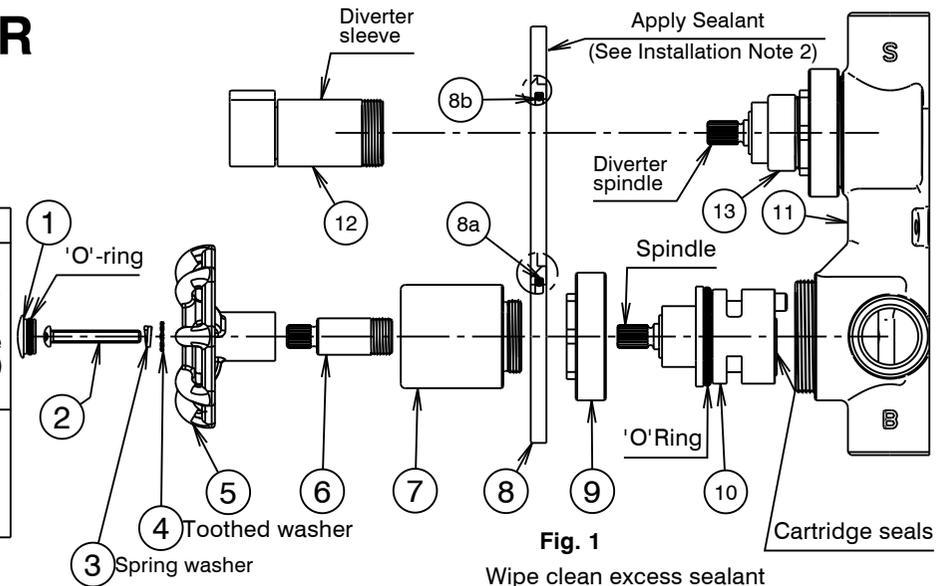

Fig. 1
### Installation (Fig. 1 - 3)
- \* The mixer body (11) must be installed square to wall/tile face to ensure that wall cover plate (8) aligns with tile joints.
- 2) Rotate the diverter spindle anti-clockwise to the stop position. Apply a suitable clear sealant to the back edge of the cover plate (8), leaving an unsealed section at the bottom for drainage. Carefully slide the cover plate (8) together with 'O'Ring (8a) over the mixer sleeve (7). Push the cover plate (8) firmly against the wall/tile face. Align the lever of the diverter knob assembly (12) to be vertically up (Fig.3) then pass the diverter sleeve through the hole in the cover plate (8) and 'O'Ring (8b). Engage the diverter knob assembly with the spline of the diverter spindle (lever up) then screw the chrome sleeve into the nut (13) and tighten by hand. Wipe/clean any excess sealant from the chrome surfaces & the wall/tile face (Fig.1).
- 3) Adaptor (6) must be engaged with spline of cartridge (10) spindle, as shown (Fig.1). Fit handle (5) onto spline of adaptor (6) then install screw (2) together with toothed washer (4) and spring washer (3) in the order shown. Tighten screw (2) using a suitable screw driver. Rotate the handle (5) anti-clockwise to the stop then insert